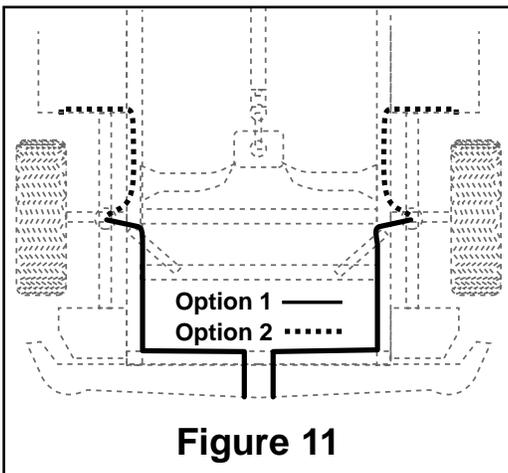

Figure 11
- A. Select a location for the inflation valves in the rocker panel flange, or rear bumper, assuring that each valve will be protected and accessible with an air hose (Figure 11).